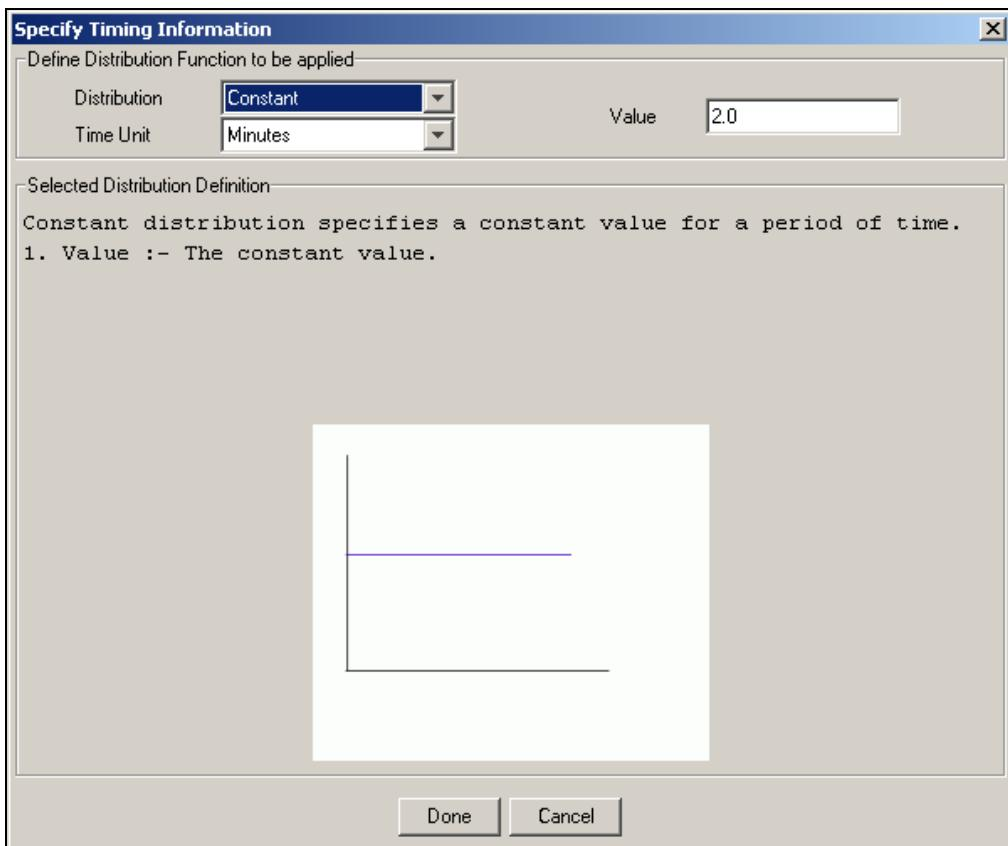

Figure 15: Define Execution Time
- To assign the execution time, click **Assign** in *Value* column of the *Execution Time* property. The *Specify Timing Information* dialog box is displayed (see Figure 15).